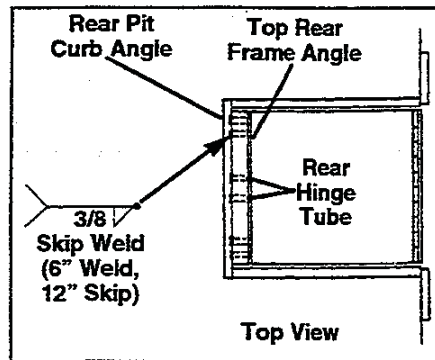

Figure 6
13. Weld the top rear frame angle to the rear pit curb angle. Weld behind each hinge tube of the leveler platform. See Figure 6
14. Powerhook KS6 units only: Tack weld the shims under the front legs to the legs, the plates imbedded in the pit floor, and to the pit front curb angle. This should be done from outside the pit prior to raising platform. See Figure 6